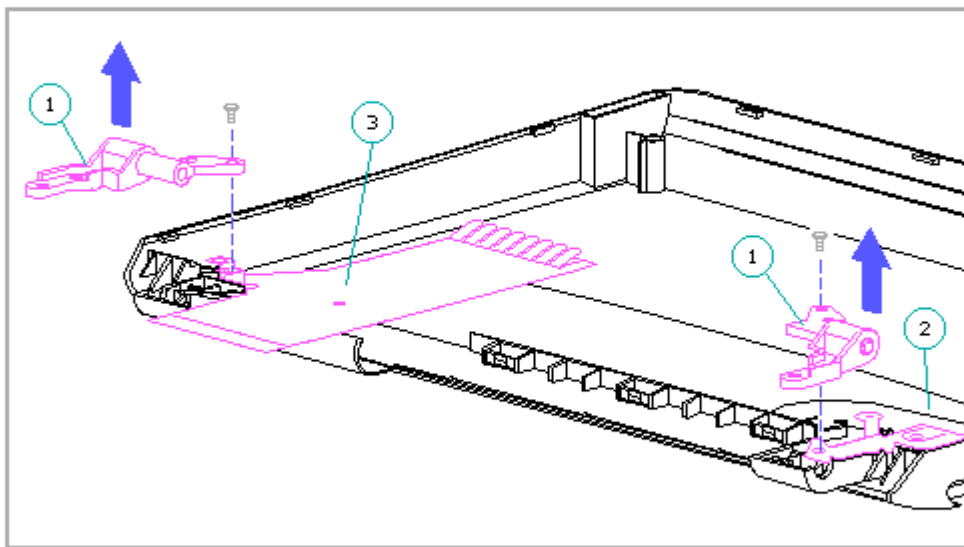

Figure 4-21. Removing the Display Clutches
IMPORTANT: Before removing the two remaining clutch screws (step 4), note that these screws also attach the mounting tab of the trackball shield [2] and one of the mounting tabs of the display ground cable [3] (Figure 4-21). The tab for the display ground cable goes beneath the clutch. The tab for the trackball shield goes either above or beneath the clutch, depending on which type of shield was originally installed in
4. Remove the two remaining clutch screws (Figure 4-21).
5. Remove the display clutches [1] from the display assembly. (Figure 4-21)